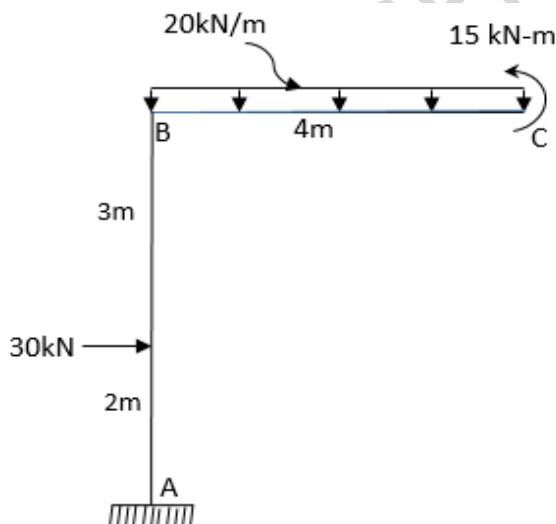

Fig. 9
c) Determine the horizontal and vertical displacement at the point C of the rigid frame shown in Fig. 9 using Castiglano's theorem method. Take  $EI = 12000 \text{ KN-m}^2$ .